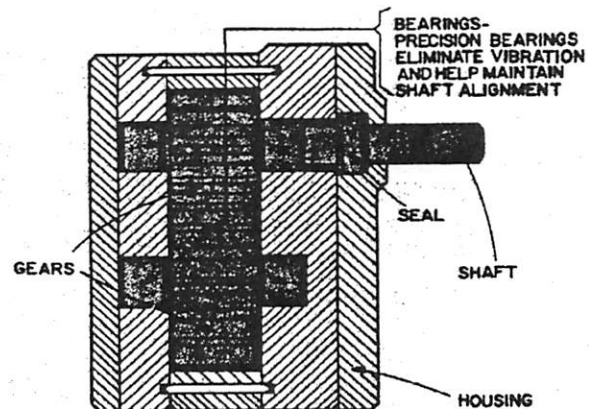

Fig. 1-9. The bearings in this rotary gear pump are a typical application.
1.42 A common practical example of the important relationship between shafts and bearings is found in the type of gear pump used to provide pressure in a hydraulic system. See Fig. 1-9. In the pump shown, the bearings support a heavy load. They also maintain correct alignment of the shafts which the driving and driven gears are mounted on. If any of the bearings should fail, the whole system will fail, almost simultaneously, because the pump will stop. It will stop because the shaft alignment will change, and the gears may jam. As a result, the pump will no longer provide the pressure needed to operate the system, and the whole unit will have to be shut down.